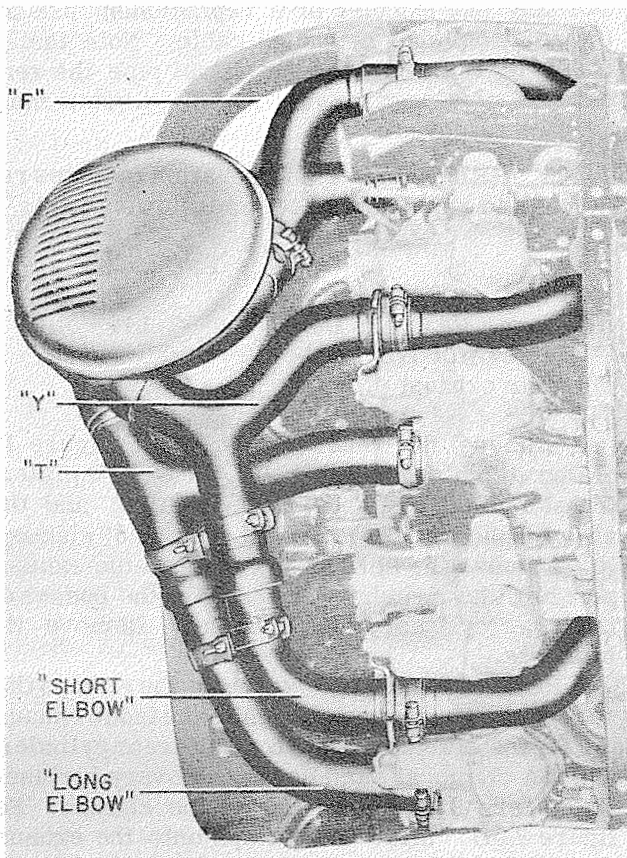

Figure 7-42. Exhaust Pipe Configuration
No. 4-5, 10-11, and 16-17, which resemble the letter F, are called "F" pipes; dual pipes to cylinders 2-18, 6-8, and 12-14, which resemble the letter Y, are called "Y" pipes; dual pipes to cylinders 1-3, 7-9, and 13-15 which resemble the letter T, are called "T" pipes. The rear single pipes to cylinders 2, 8, and 14 are called "short elbows" and the single pipes to cylinders 3, 9, and 15 are called "long elbows". See figure 7-42.
j. Position one of the "figure 8" clamps over the "T" and "Y" pipes and the other over the long and short "elbows" at the locations shown in figure 7-42. They must be over the anti-chafe strips welded to the pipes. Install the short bolt, spacer sleeve and nut at the outer end of each "figure 8" clamp. Install the long bolt, with an anti-chafe plate under the bolt head, through the center spacer. Add an anti-chafe plate to the threaded end of the bolt, and secure with a nut finger tight. Ensure that the curved area of the spacer is flush with the curved area of the exhaust pipe. At this time torque the short outer bolts only. This centers the exhaust pipes within the two "figure 8" clamps.